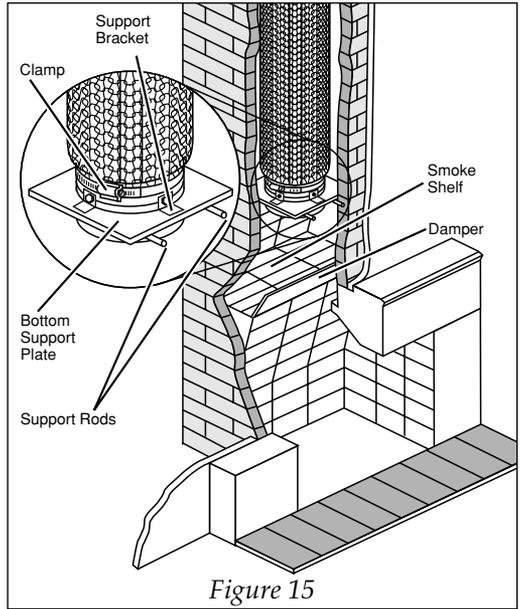

Figure 15
9. When using HomeSaver Flex to reline a fireplace, the Flex is to be terminated at the bottom of the chimney flue just above the smoke chamber. Termination is illustrated in figure 15. Support rods are installed as explained above, point number 7, with the added instruction to be sure that the rods are spaced widely enough to not block the hole in your stainless steel bottom plate. Install your four support brackets by bolting to the Flex in a position that will have them resting on the bottom plate, and so no more than 2" of Flex is below the plate (figure 15). As an alternative method of support, a HomeSaver Bottom Plate Leg Support System can be